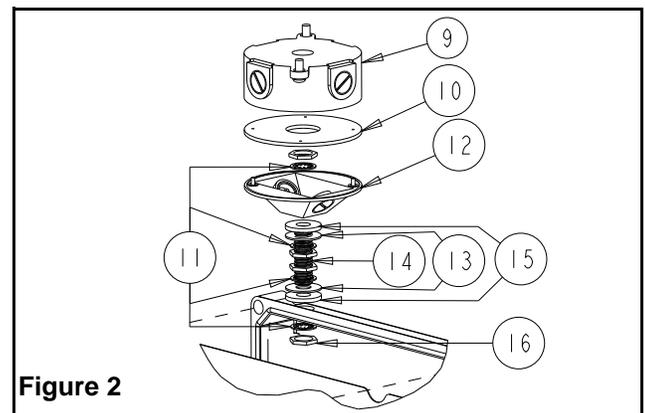

Figure 2
3. Install the canopy on the nipple(14) by inserting the nipple through the center hole of the canopy (see fig.2). Install one lockwasher(11) and nut(16) on the upper end of the nipple, (inside the canopy). Insert one foam gasket(15), washer(13) and lockwasher on to the nipple. Thread